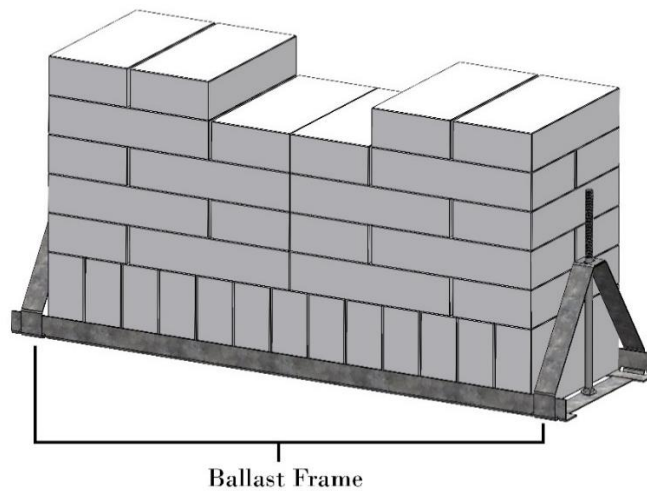

Figure 18 Ballast frame assembly
9. Install the ballast bricks to the top row as per Figure 18.